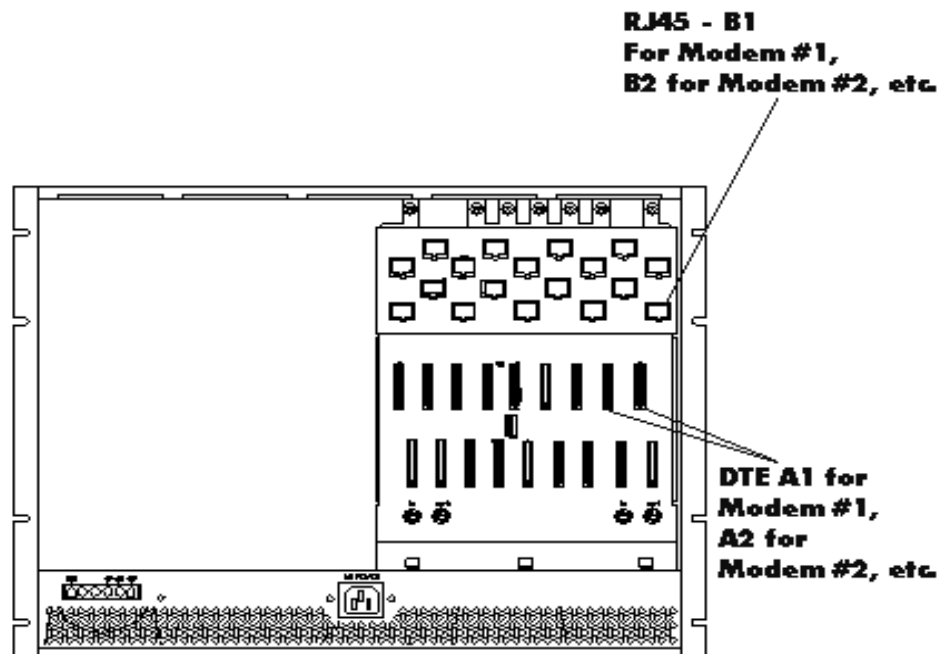

Figure 4 Dedicated/Dial Modem Rack Assembly (Codex 326X) with 9-Slot Backplane
- q. Connect an RJ45 cable between port A of the 14.4 kbps A/B switch and the modem nest backplane as indicated in Figure 4 of Kit A or D instructions (See ATTACHMENT 3, Figure 4). For example, if this is the first 14.4 dedicated line being installed, it would connect to position B1.
- a. Connect the mating end of the DTE cable (1221203-530, NSN 5995-01-387-3817 for Kit "A" or 1222302-307, NSN 5995-01-407-2893 for Kit "D") to the modem backplane as indicated in Figure 4. (This will either be a DB25 connector (Kit D) or a Mini 26 connector (Kit A)).